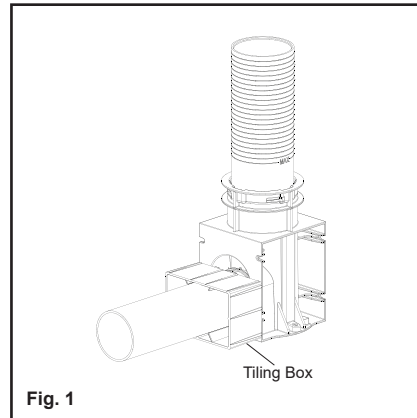

Fig. 1
1. The blue flush pipe tiling box is already been installed onto the horizontal flush pipe section at the factory as shown in **Fig. 1**. After the adjustable flush pipe has been mounted, the tiler can prepare the wall.